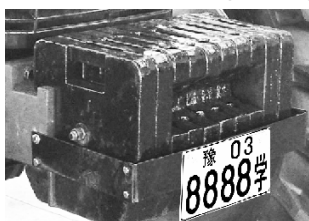

Fig.1-1 Installing front tag
1.2 Tractor cannot be operated without licenses. Refer to Fig.1-1 for installing front plate. When driving along the road, you'd better follow local traffic rules.